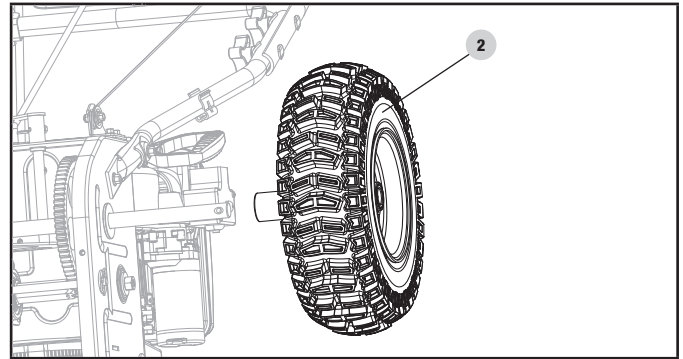

Figure 33C
3. Remove the right wheel (2) by removing the axle pin on it (Fig. 33C).